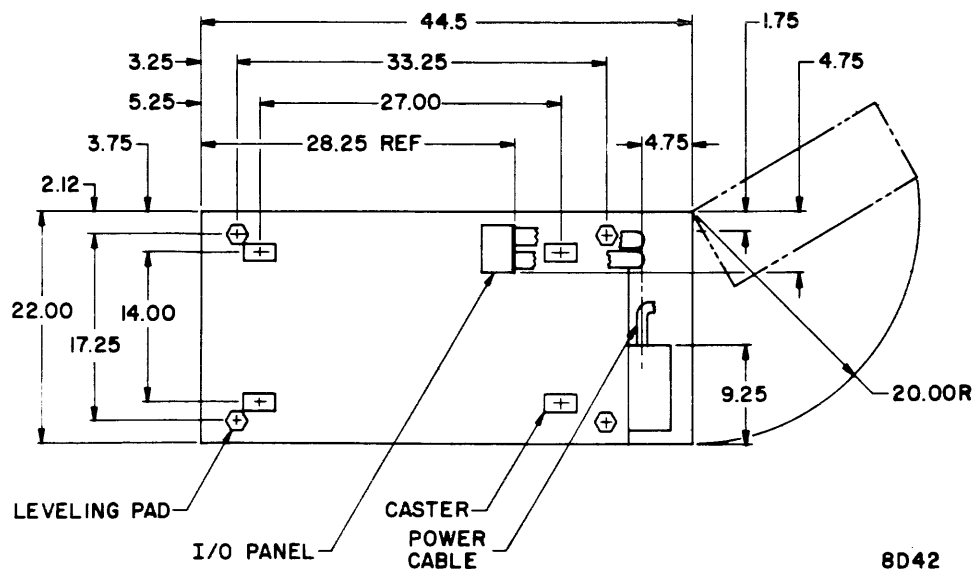

Figure 1-2. Space Requirements
Figure 1-2 illustrates recommended clearances required for maintenance.
1. Roll cabinet to designated location. Position it so that I/O panel (Figure 1-2) is over floor cutout.